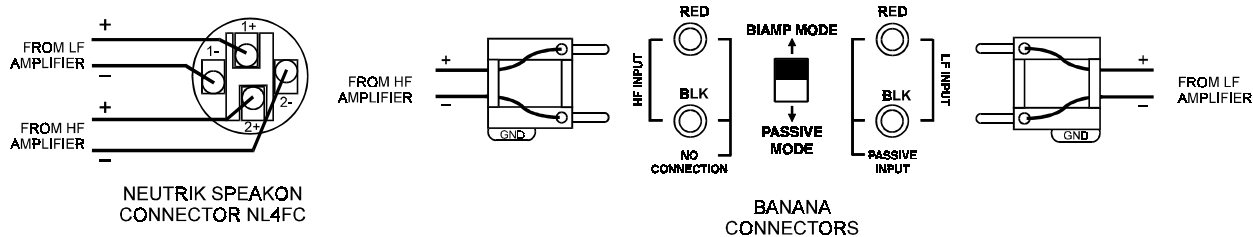

FIGURE 5: Wiring for SLS in BIAMPLIFIED Mode
10.5.2 SLS BIAMPLIFIED Mode Operation (See FIGURE 5)